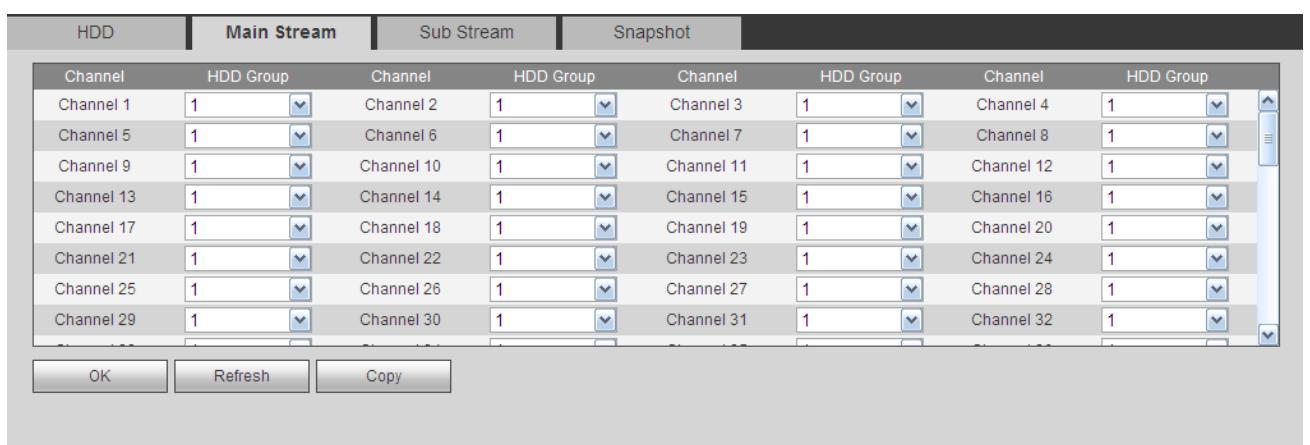
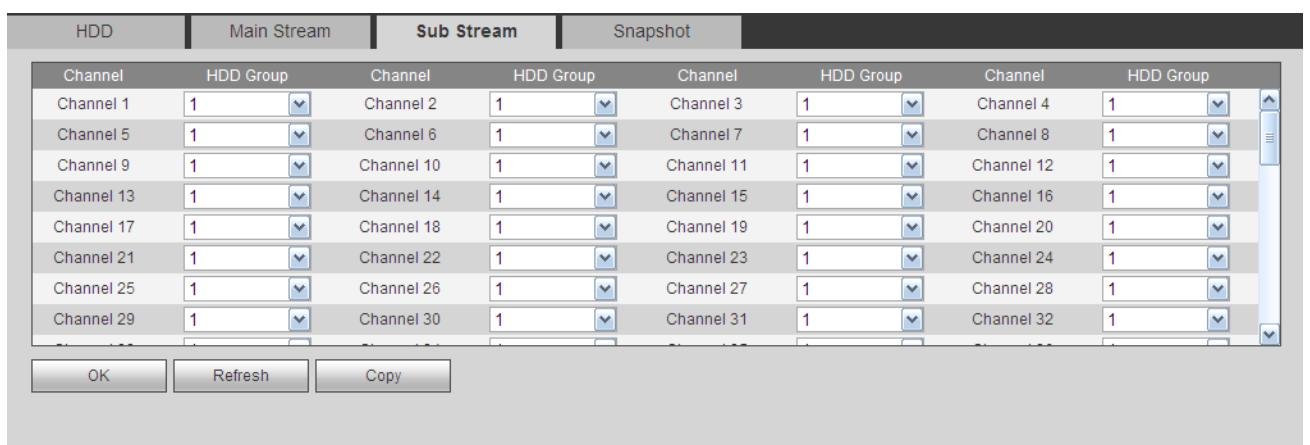

Figure 5-109
Figure 5-110
Step 3 After set HDD group, click main stream/sub stream/snapshot tab to save main stream, sub stream, snapshot image to different HDD group. See Figure 5-109, Figure 5-110, Figure 5-111